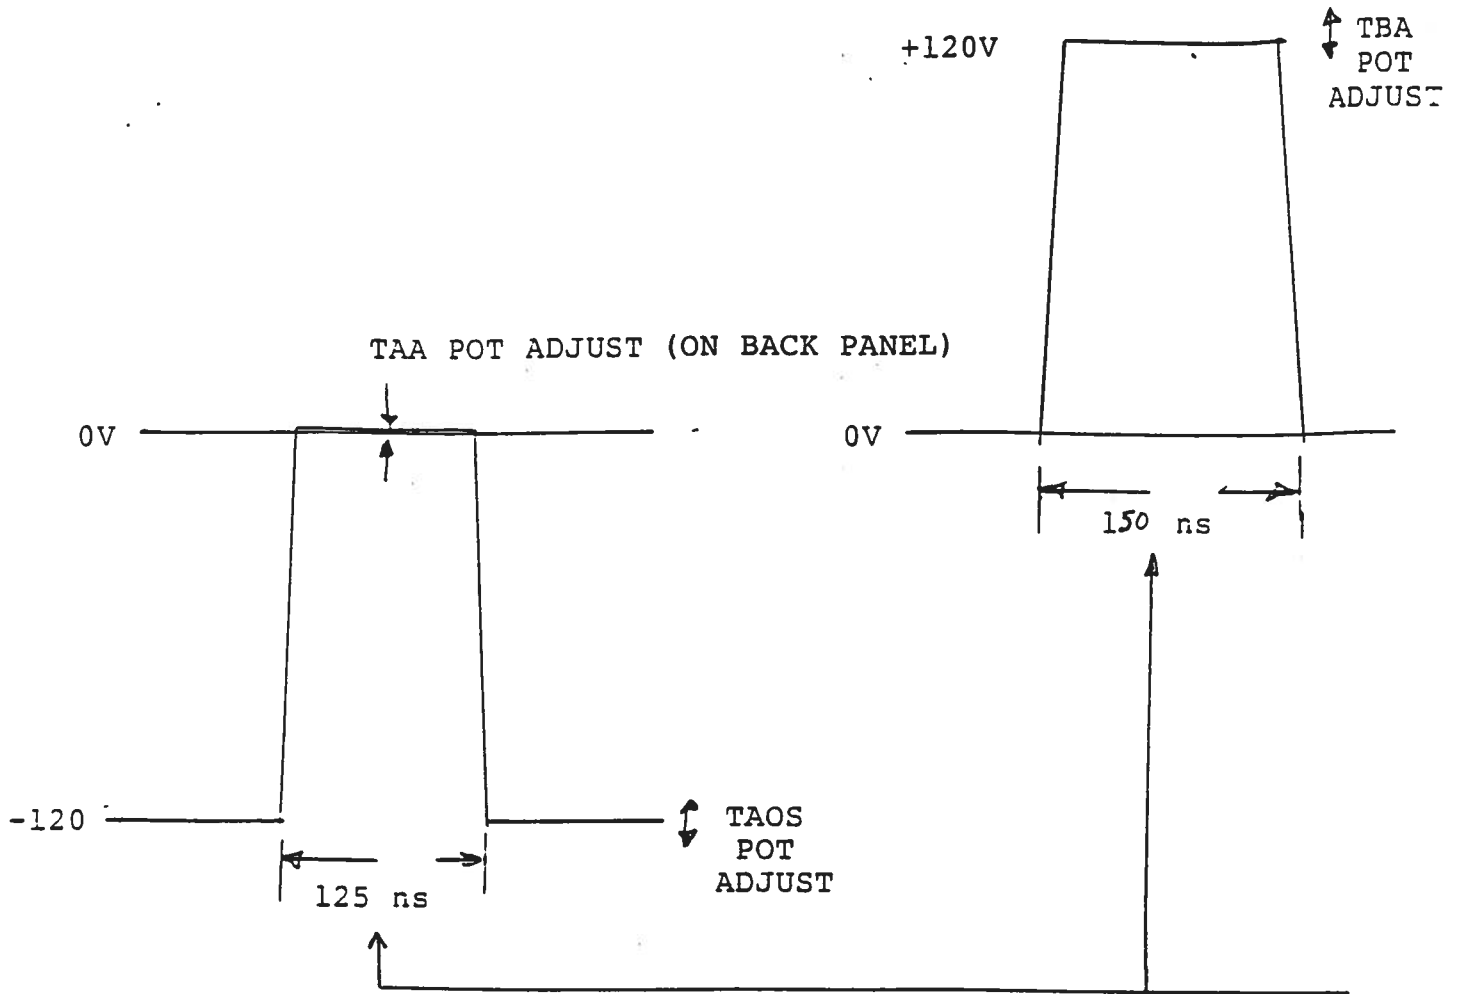

Fig. 3
- 4) With PIN A "HIGH" and PIN C "LOW", the OUT SMA connectors provide the waveforms shown in Fig. 3. The one turn TAA, TAOS and TBA locking pots (see Fig. 4) are accessible in the interior of the instrument to provide the amplitude adjustments shown in Fig. 3. CAUTION: Potentials as high as 140 Volts DC are employed and exposed in the interior of the instrument (see Fig. 4).
- (4) TRIG. SMA connector to which 1 us (or wider) $\overline{\text{NIM}}$ pulse is applied. See paragraph 1, SECTION A. Input impedance is 50 Ohms.
- (5) OUT. SMA output connectors provide waveforms shown in Figs. 3 and 5, SECTION A.